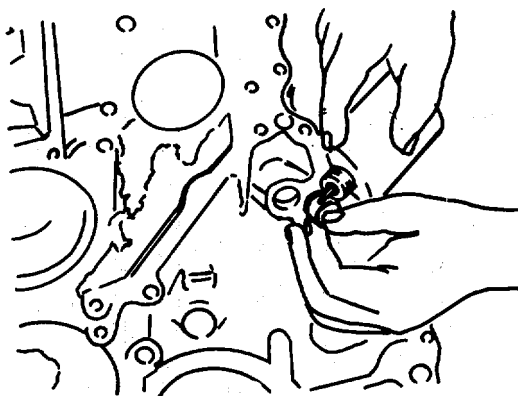

FIGURE 4-95. Applying Loctite.
- k. Apply a bead of loctite 277 around the outside diameter of the oil passage cup plugs. (FIGURE 4-95)